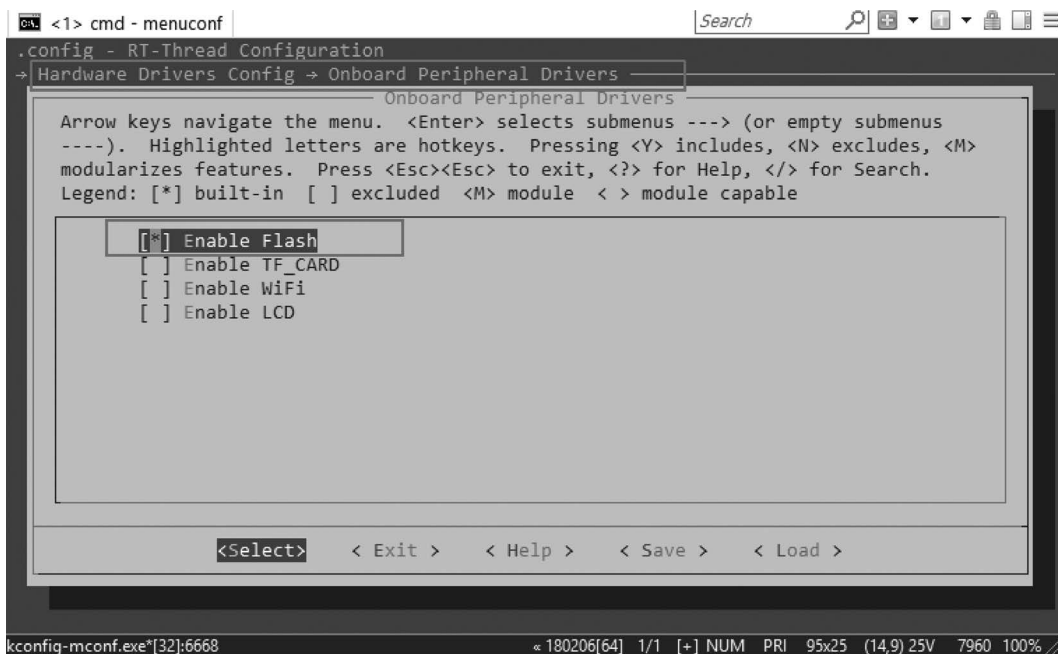

FIGURE 11.22 Hardware configuration 2.
2. Enable FLASH according to the menu directory prompt in Figure 11.22.